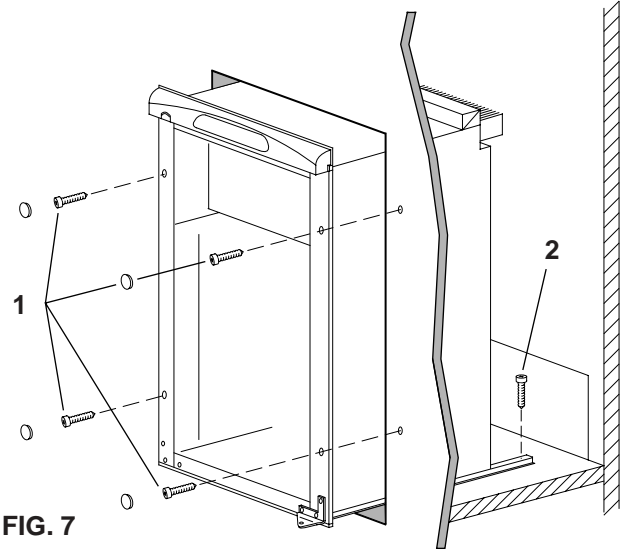

FIG. 7
STEP 1: Four screws installed through the front frame. See fig. 7.
STEP 2: One screw installed in rear base. See fig. 7.